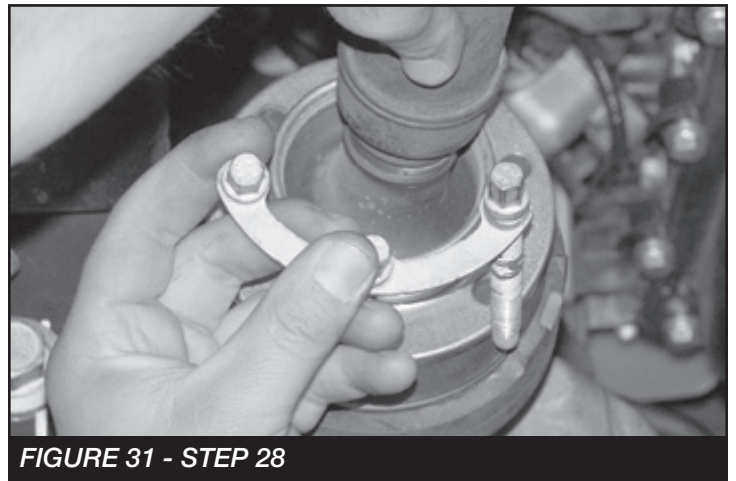

FIGURE 31 - STEP 28
28. Reinstall the front drive shaft with the factory hardware and torque to 35 ft-lbs. **SEE FIGURE 31**